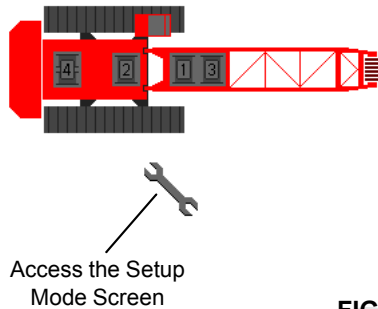
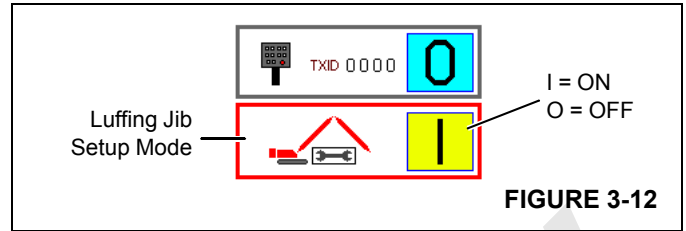

FIGURE 3-11
FIGURE 3-12
2. Select the setup screen (Figure 3-11). The screen shown in Figure 3-12 will appear.